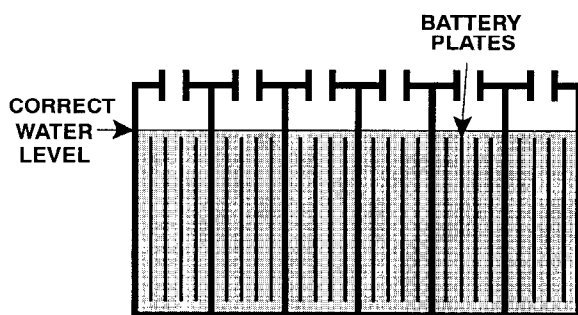

FIG. 6.
3. Check battery water level: Battery water level should slightly cover battery plates. (Figure 6)